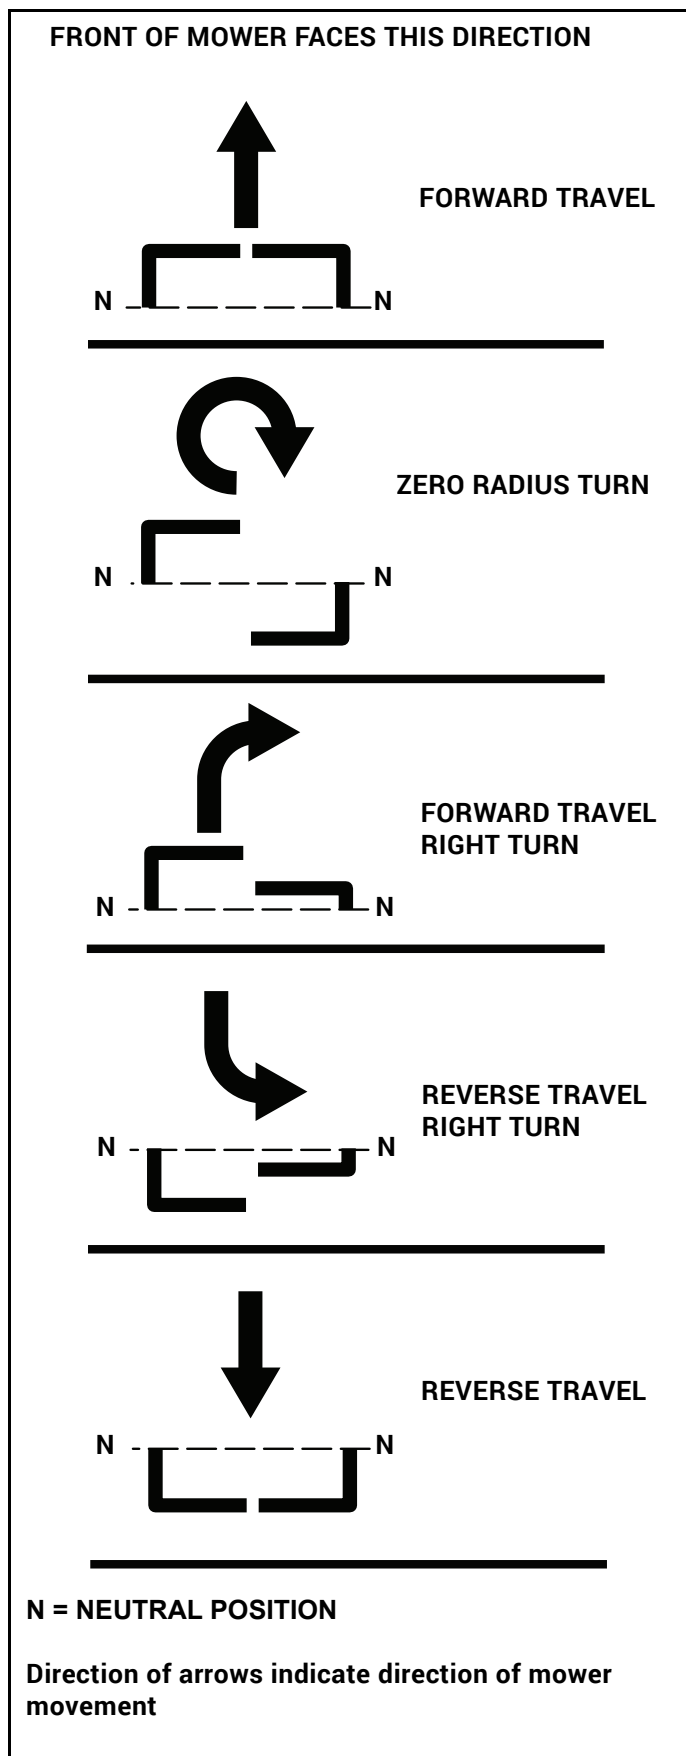

Figure 3-10
**To go forward,** push the steering control levers forward an equal distance. Figure 3-10
**To go in reverse,** pull the steering control levers rearward an equal distance. Figure 3-10
To turn right, move the left steering control lever farther forward from neutral than the right steering control lever. Figure 3-10
**Zero radius turn**, move one steering control lever forward and the other steering control lever back of neutral. This allows the drive wheels to counter-rotate. Figure 3-10